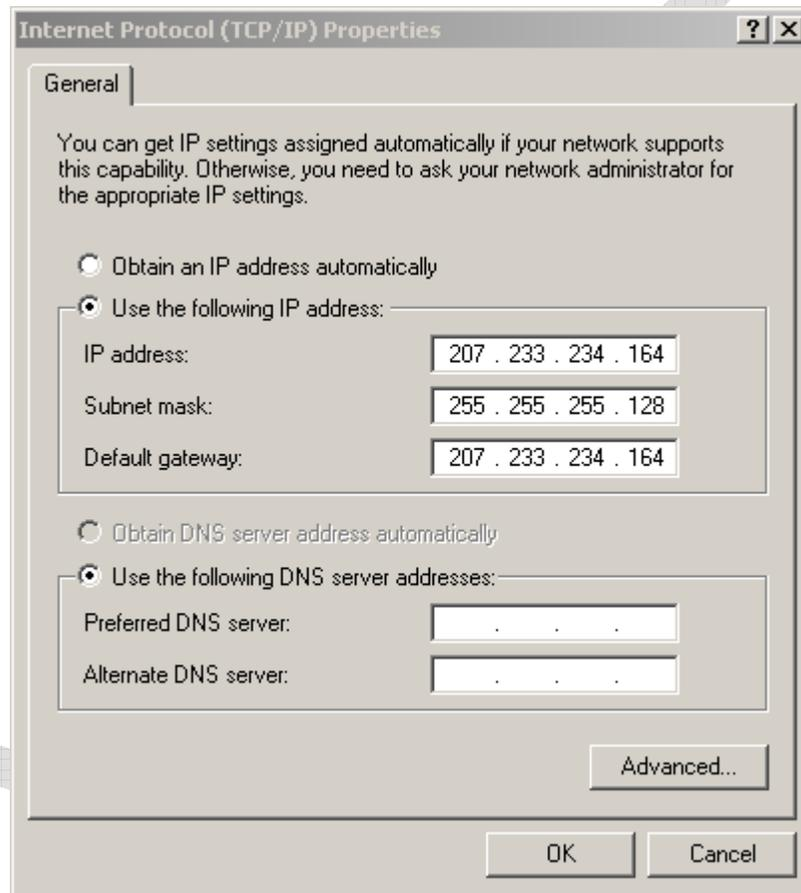

Figure B-3: Internet Protocol (TCP/IP)
4. Inside the *Internet Protocol (TCP/IP)* window (Figure B-3), fill out the following fields: